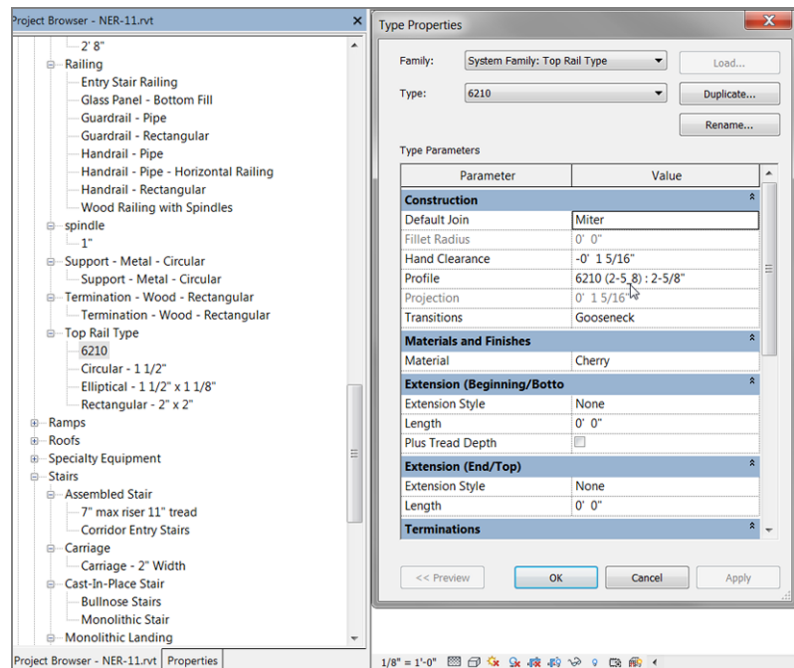

FIGURE 10.57: Changing the rail. Note that you can add as many rails as you wish. Here, you're adding only one.
8. In the Project Browser, under the Families category, scroll down until you see Top Rail Type, as shown in Figure 10.57.